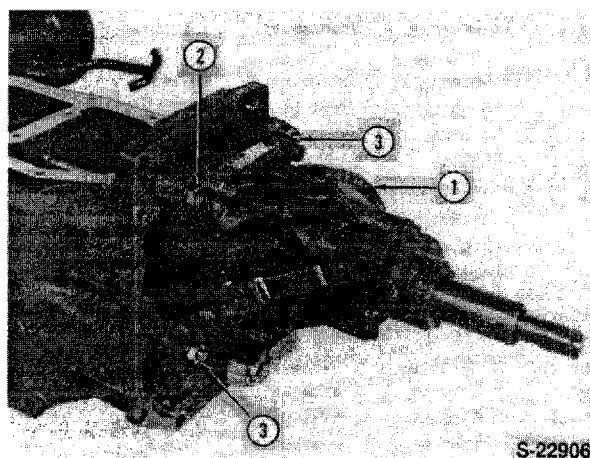

Figure 89
4. Remove the hydrostatic unit retaining bolts and nuts and remove the hydrostatic unit from the transmission case, Figure 89.